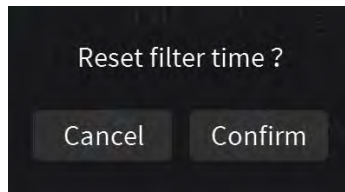

Fig.2.6.4
The service life of the filter set by the parameter configuration. When the filter time reaches to the parameter setting value, the alarm state can be issued through the bus, and the remaining filter timer value can be displayed to be 0%. When touch icon ②, the filter time can be reset, as shown in Fig.2.6.4 below. After clicking "Confirm", the filter timer value can be reset to 100%.